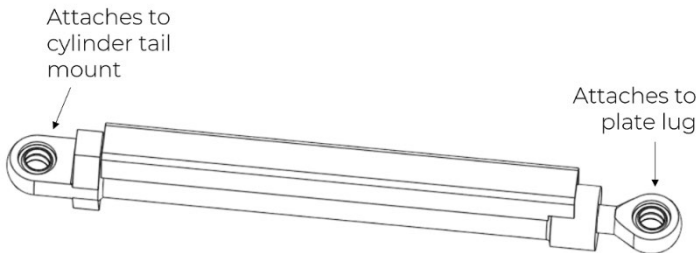

Figure 7: Orientation of the hydraulic cylinder
1. Familiarize yourself with the proper orientation of the hydraulic cylinder, as shown in Figure 7 below.